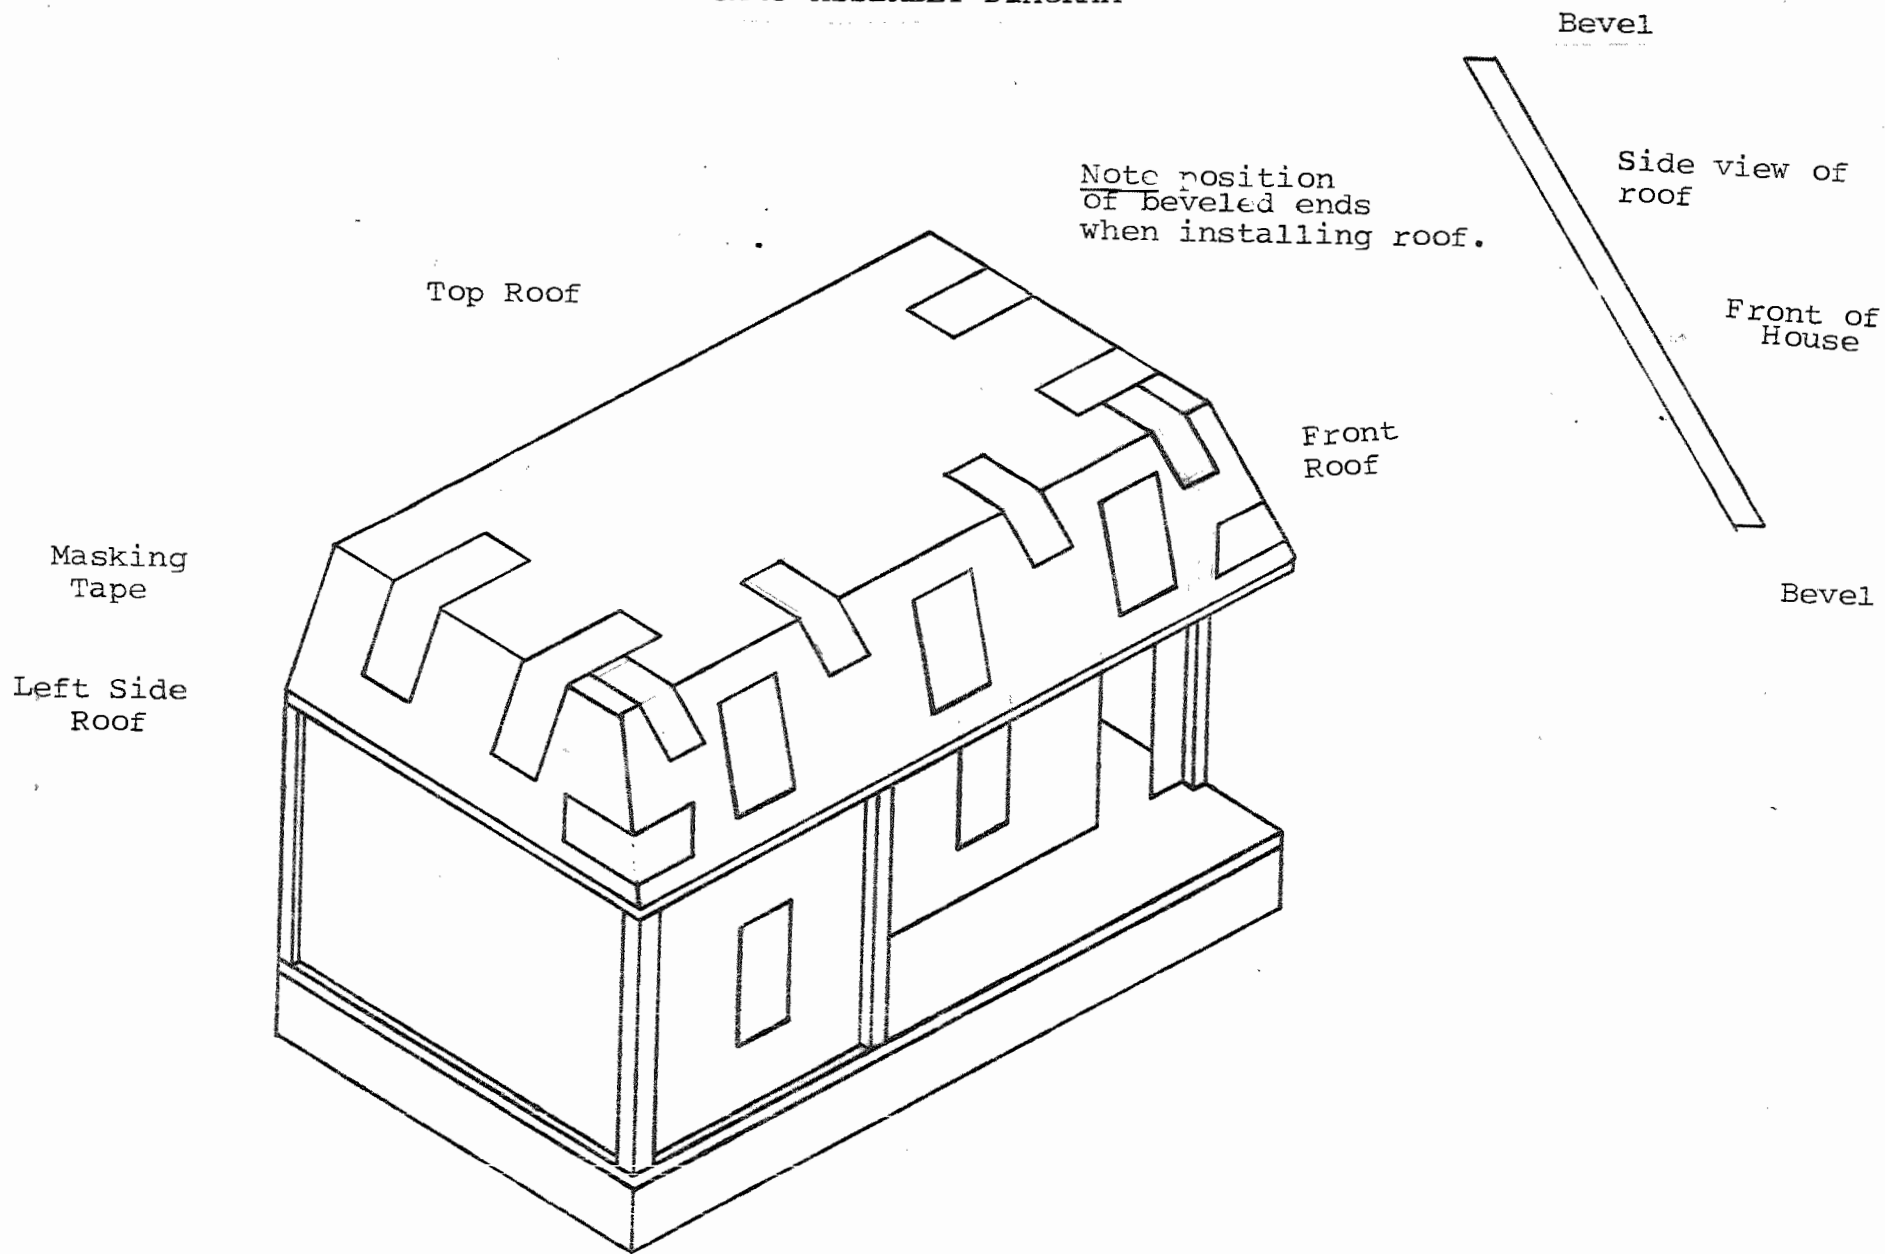

Figure 8
Refer to Figure 8.
27) Position the roof sections excluding the top roof on the second floor as shown in Figure 8.
Tape everything together as shown in Figure 8.
28) Apply a generous bead of glue to the top of the roof sections just installed and place the top roof into position as shown in Figure 8 and tape everything together.